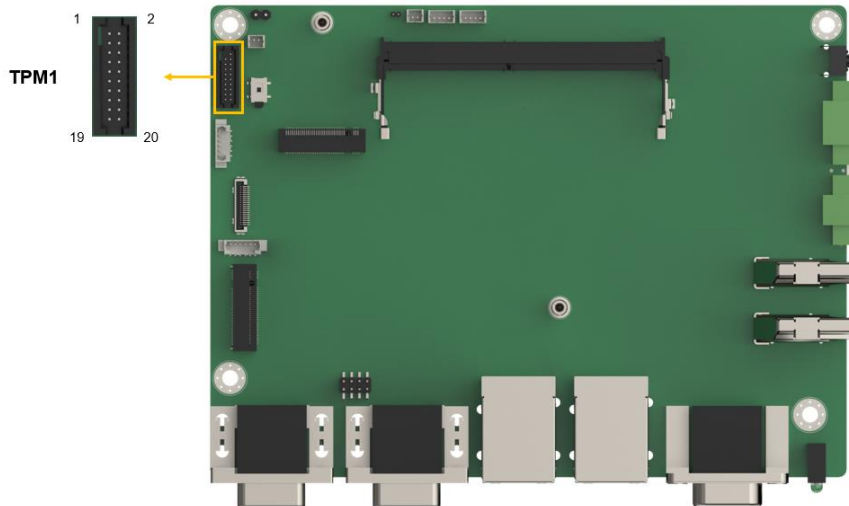

Figure 4-11: SPI TPM Connectors Location
- CN Location:** See **Figure 4-11**